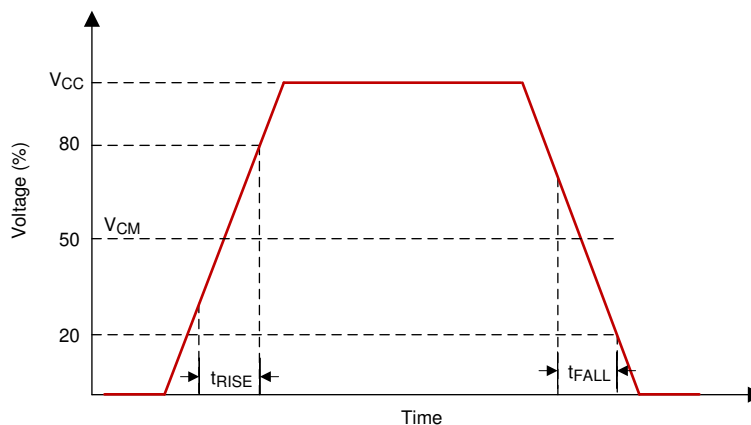

Figure 6-3. SCP Requirements for Rise and Fall
(1) See Figure 6-3 for Rise Time and Fall Time for SCP.